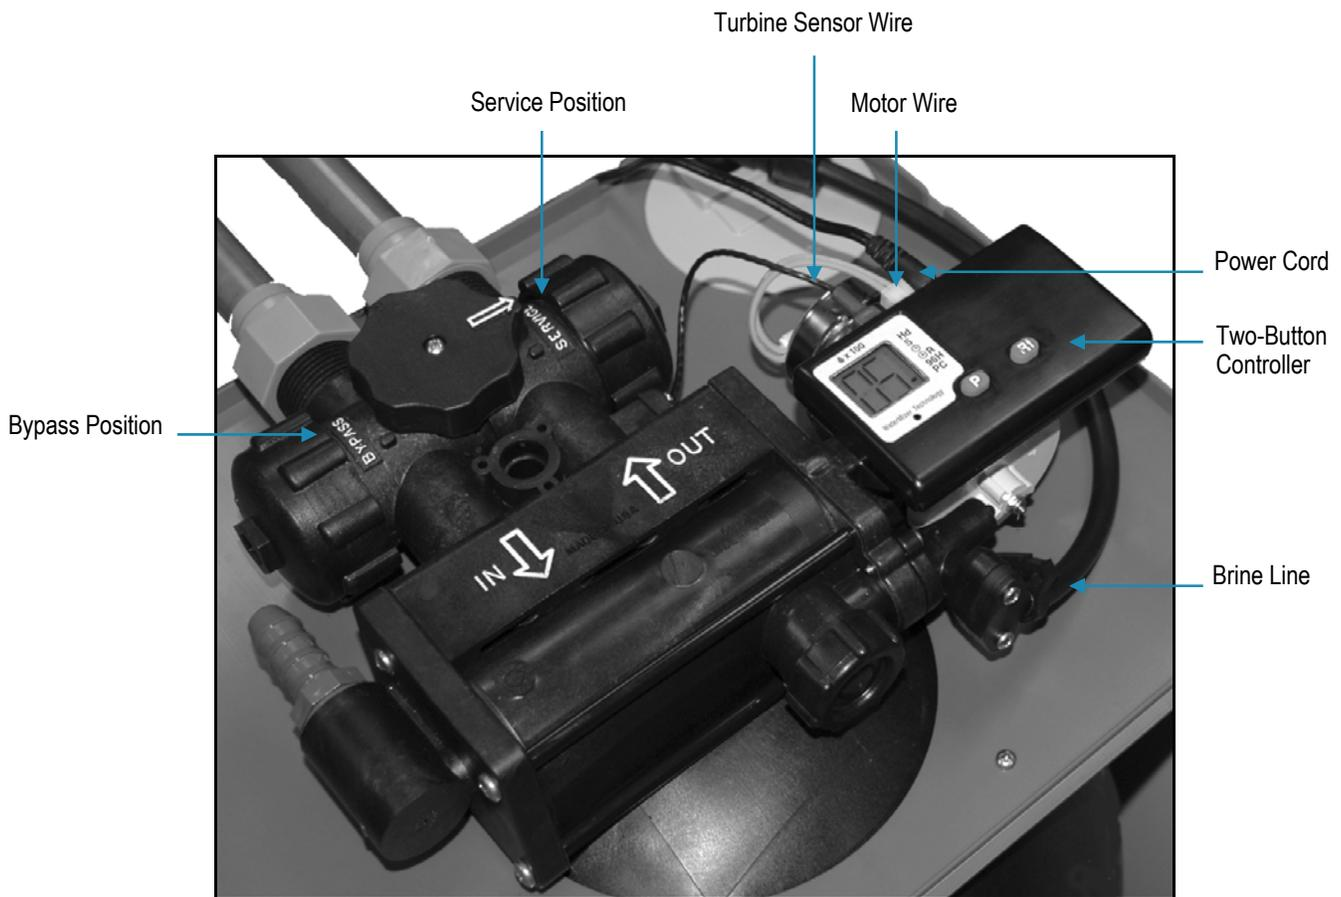

Figure 6: Valve View of Softener
- A. Place the appliance in the Bypass position. (See Figure 6.)
6. Place the appliance in the Service position to slowly fill the media tank. (See Figure 6.)
- A. Connect the transformer power cord to the back of the controller. (See Figure 6.)
- C. Press the **R↑** button to advance to the Brine Refill (04) position. Let the tank fill with the proper amount of water. The controller will then step the valve to the Home position.
- A. Ensure that the appliance is in the Service position. See Figure 6.
The bypass is located on the main control valve. See Figure 6. To engage the bypass, turn the knob to the Bypass position. The appliance will be bypassed and all water to the home is raw, untreated water. To prevent untreated water from entering the home, water should not be used inside the home when the appliance is in Bypass mode. Ensure that the appliance is returned to Normal Operation when the appliance is repaired or the use of untreated water is complete by turning the knob to Service.